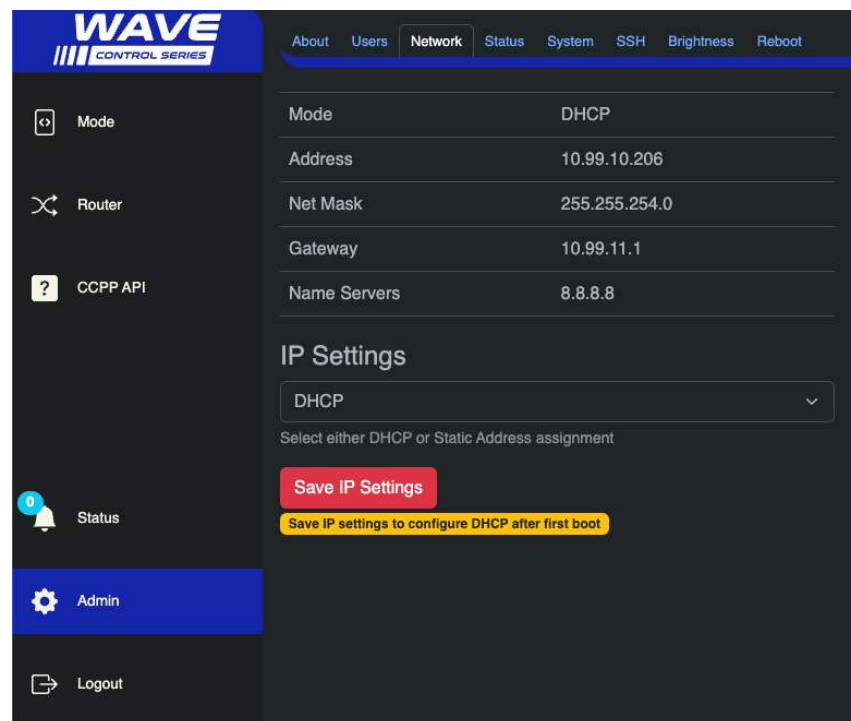

Figure 3
7. Go to the **Admin Tab** toward the bottom left panel and select **Network** towards the top of the page. The IP address you set with the dip switch settings are shown on this page. From here, you can either set a Static IP that works with your network's subnet or configure the panel to DHCP mode. **Figure 3** below shows the Network setting's page. Click "**Save IP Settings**" to save the network configuration. From this point, set the dip switches to "**IP User Selection**" and reboot the panel to confirm the changes we memorized. If the panel's IP address changed (refer to **Figure 2** - the control panel LCD display to confirm) update the browser's URL to the appropriate address, and sign in again.